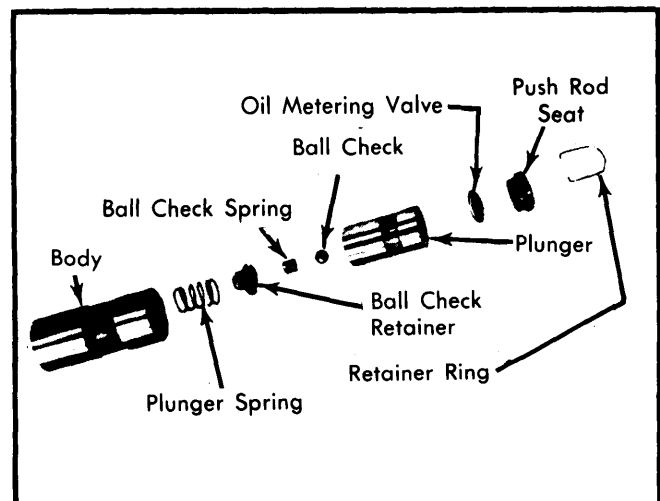

Fig. 4 Hydraulic Valve Lifter Assembly
1) Install suitable adapter tool (BT-105-2) in reservoir of suitable leakdown tester (BT-60) and fill reservoir with test fluid (BT-59) to $\frac{1}{2}$ " below top of reservoir. Assemble ball check, ball check spring and retainer in plunger with flange pressed tight against bottom of recess in plunger. See Fig. 4.